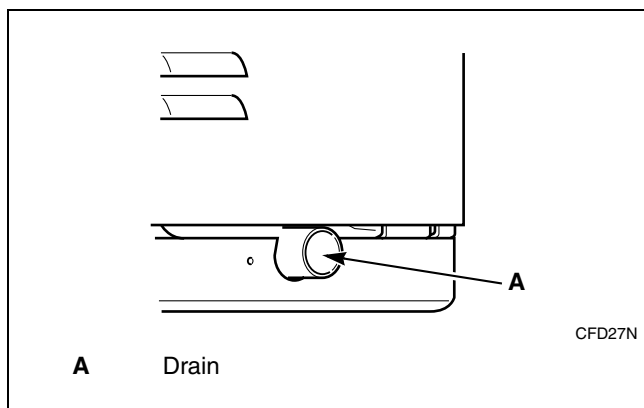

Figure 7
The water still being in the drain needs to be drained using drain (A) before cleaning the drain pipe or replacing the exhaust valve. Refer to *Figure 7*.